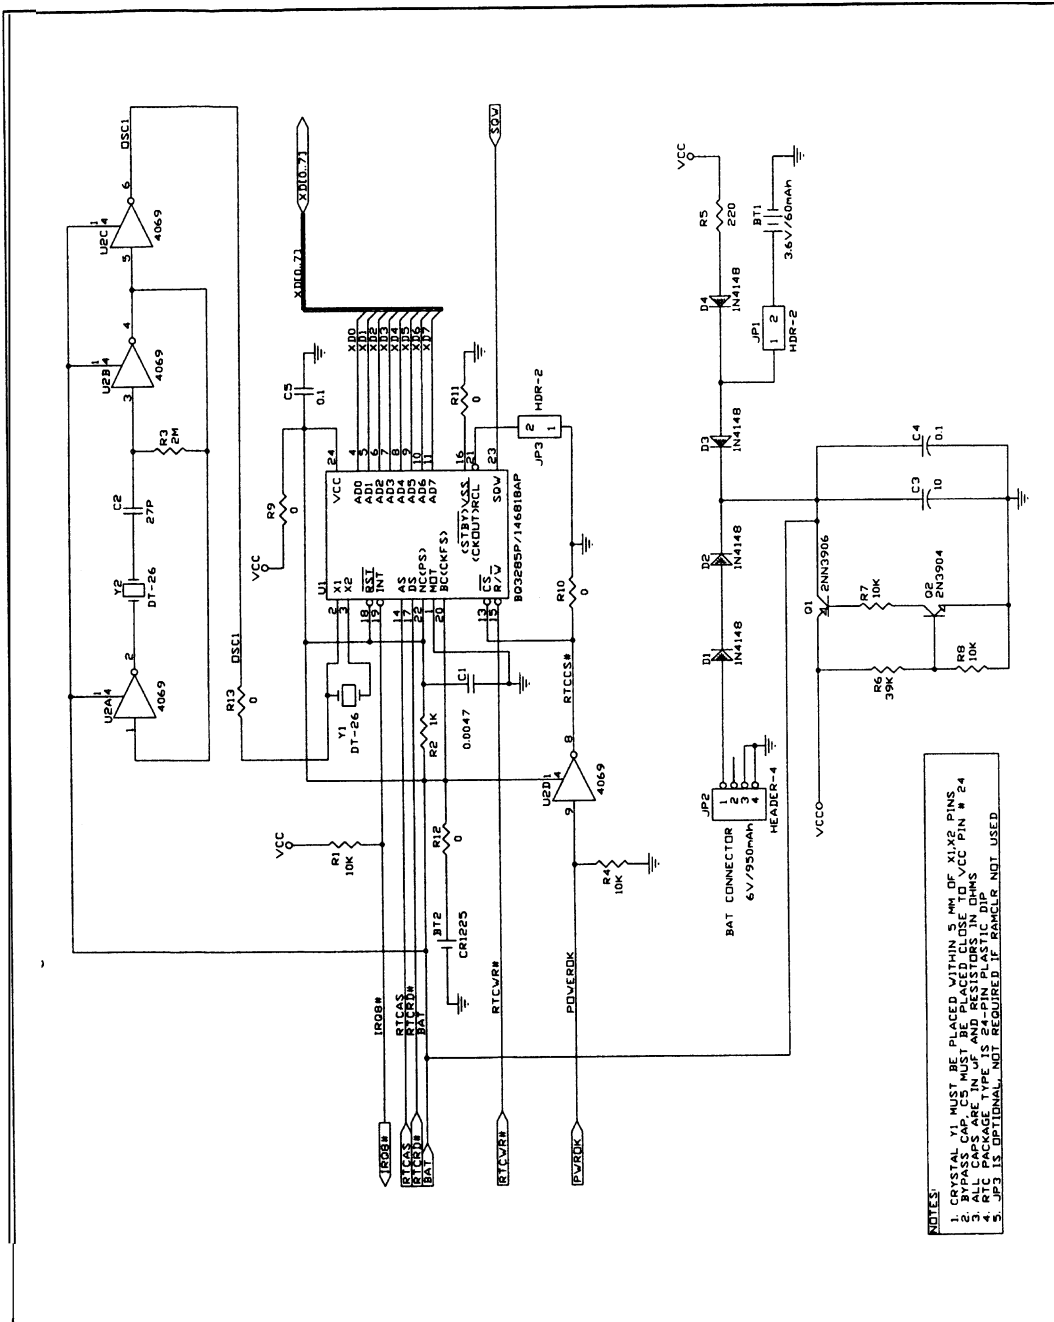

Figure 3. bq3285 or MC146818A ISA (PC/AT) Example
- **MC146818A/bq3285** design (Figure 3, Table 4)